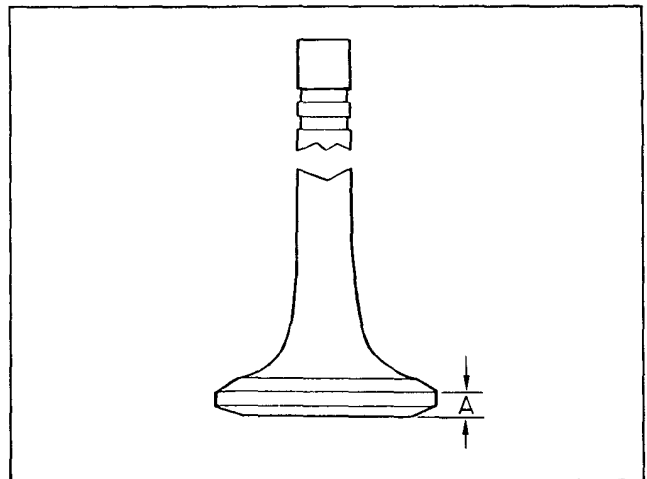

Fig. 2-11, (N10231). Minimum valve head rim thickness
Heads are cupped, cracked, pitted or worn too thin to regrind within limits. Check valve head rim thickness (A, Fig. 2-11), it should be a minimum of 0.105 inch [2.67 mm]. Stems scored or worn beyond worn replacement limit as listed in Table 2-1 (2), should be discarded. If collet recesses are worn so new collets will not fit securely in recesses (discard).
2. Wet-grind valves to an exact 30 degree angle from horizontal. Check rim thickness as shown in Fig. 2-11. If rim is less than 0.105 inch [2.67